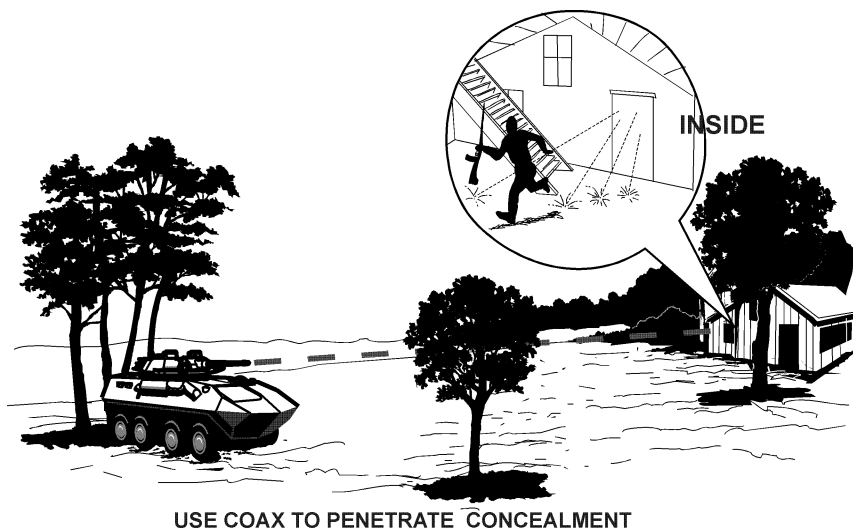

Figure 3-14. Firing Through Concealment.
(3) Firing Through Concealment. Both 7.62 mm machine guns can be used to penetrate light concealment such as small trees, hasty barricades, or lightly constructed buildings that might be used by dismantled enemy personnel. (See fig. 3-14.) Treat such concealment as a point target. Heavier concealment may need to be penetrated by 25mm main gun fire.